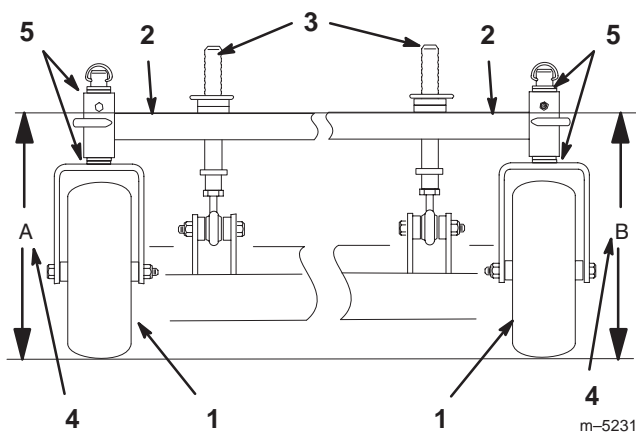

Figure 47
3. Measure carrier frame height at location “A” (Fig. 47).
4. Measure carrier frame height at location “B” (Fig. 47).